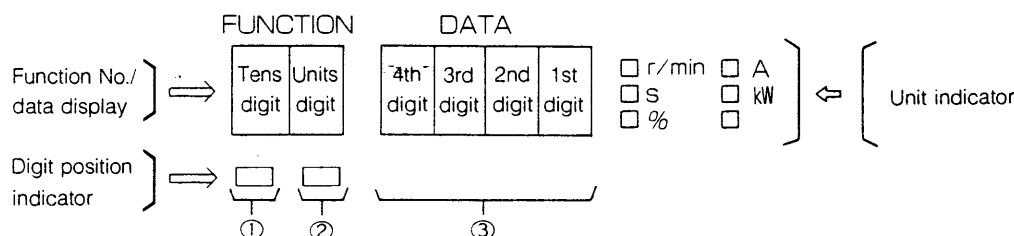

Fig. 8-3-1 LED display
(1) Steps
①~④ Select a required function in the same way as 8-3 ①~④.
⑤ Press **SHIFT** and turn off selection indicators ① and ② in Fig. 8-3-1 to shift to a parameter setting mode. Note that during inverter operation, a parameter setting mode can not be displayed in connection with parameters that are disabled from setting during operation.
(1) At fault occurrence.
- ① When a fault occurs, the present display mode is automatically changed to a fault display mode (FNO. 40) and the code of a fault that occurs first (1st fault) is shown on DATA display.
The units digit ② of the selection indicator is lit (see Fig. 8-3-1).
- ② To see if another fault is combined, call FNO. 41 with $\wedge$. FNO. 41 displays the code of a fault that occurs second (2nd fault).